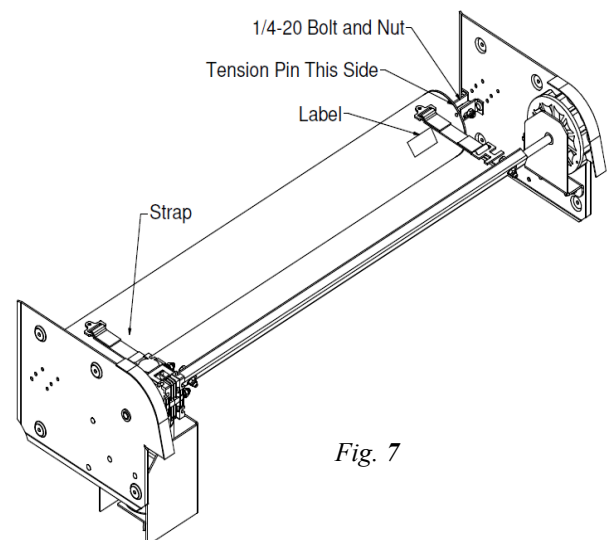

Fig. 7
- Place the operator shaft into the U-Brackets on the pennant plates. The tension pin and label shall be on the right while looking into the compartment (Fig. 7).